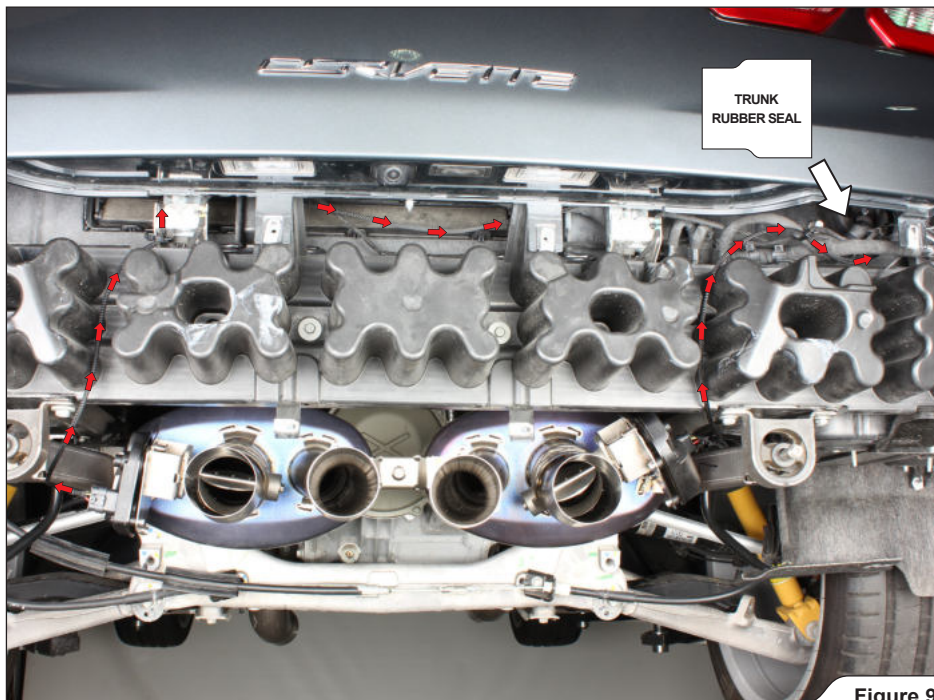

Figure 9
8. Direct the longer exhaust valve's actuator harness from left servo to the trunk rubber seal and shorter from right servo to the trunk rubber seal; secure the harnesses using tie wraps from Akrapovič installation kit (**Figure 9**).